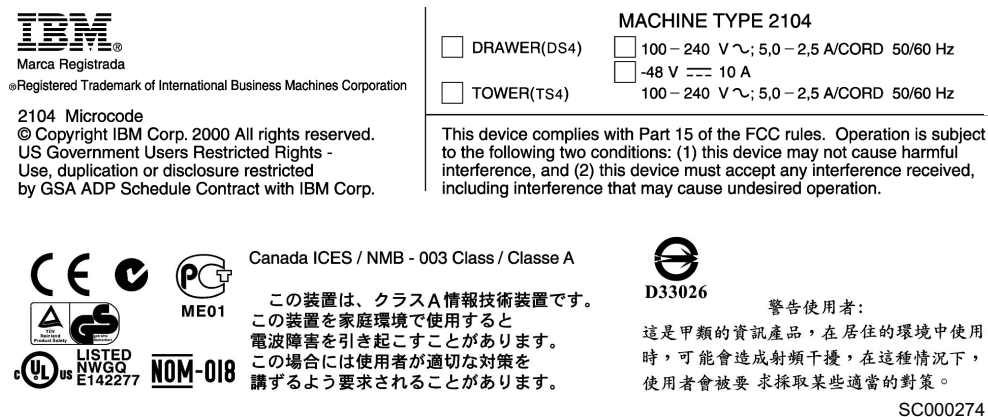

Figure 1. 2104 Model DS4 label
1. Verify that the label is installed on the 2104 Model DS4. See Figure 1.